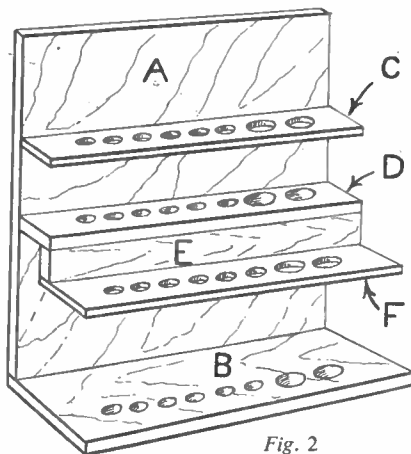

Fig. 2
Fig. 2 shows the general construction. The back (A) is cut from $\frac{1}{2}$ in. wood, 13 ins. by $11\frac{1}{2}$ ins. Also cut from $\frac{1}{2}$ in. wood are (B) 4 ins. by $11\frac{1}{2}$ ins.; (E) 2 ins. by $11\frac{1}{2}$ ins.; (D) $1\frac{1}{2}$ ins. by $11\frac{1}{2}$ ins. Wood $\frac{1}{4}$ in. thick is needed for (C) $1\frac{1}{2}$ ins. by $11\frac{1}{2}$ ins.: and (F) 2 ins. by $11\frac{1}{2}$ ins.